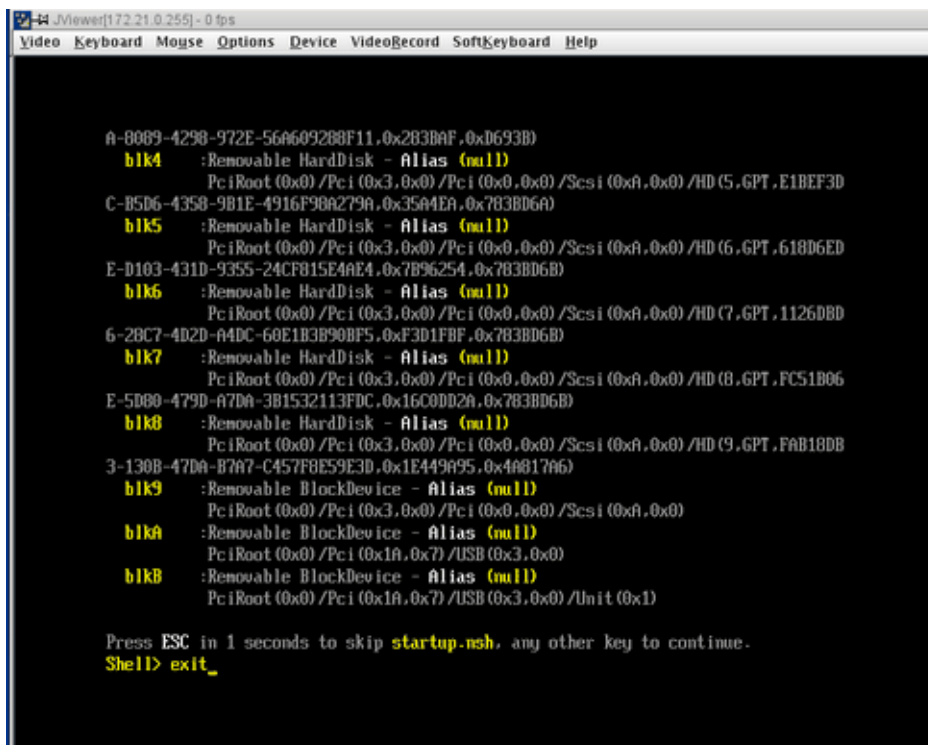

Figure 3-21 KVM JViewer Shell Prompt with `exit` Command Screen
2. When the **Shell>** prompt appears enter `exit`, as shown in Figure 3-21 on page 62.